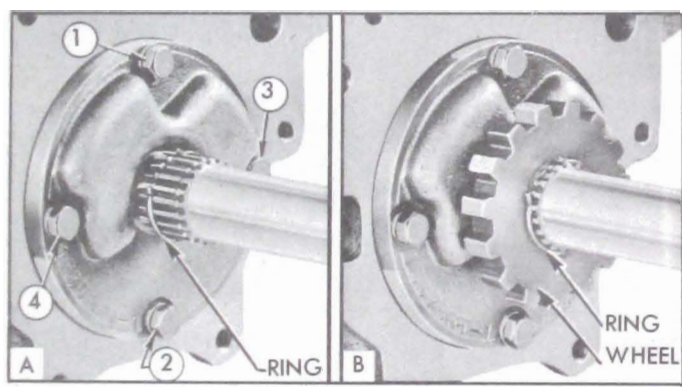

Figure 5-91—Pump Bolt Tightening Sequence—Installation of Ratchet Wheel
shown in figure 5-91 (A), then tighten in same sequence to 25-30 ft. lbs. torque.
1. Install a retaining ring in the forward groove in output shaft, install ratchet wheel, then install retaining ring in rearward groove in output shaft. See figure 5-91.